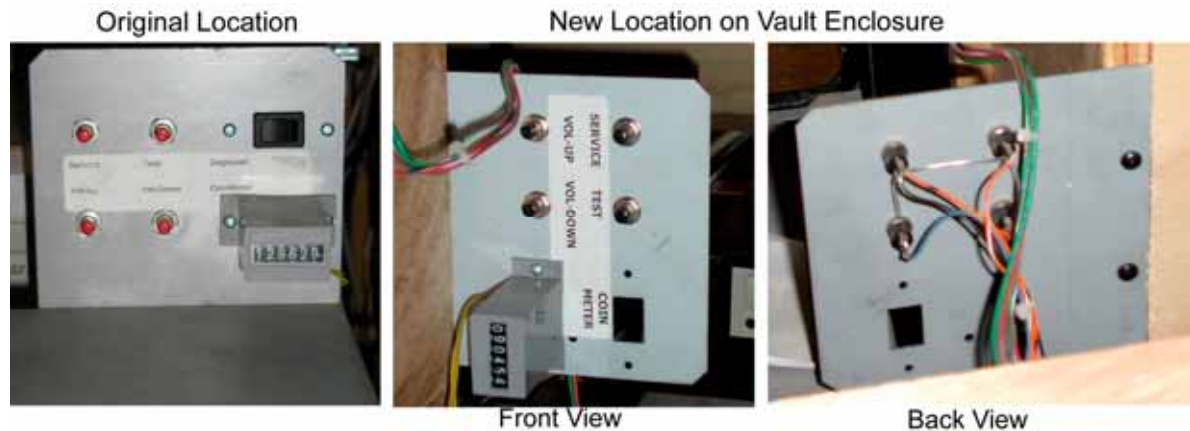

Figure 4. Relocating the Operator Button Panel
1. If the operator button panel in your cabinet looks like the one in Figure 4, you may wish to relocate it so that you can access the front of the computer through the coin door. Remove the two screws that secure the panel to the coin door assembly and move it to the side of the vault assembly, as shown in Figure 4. Secure it with the two screws.